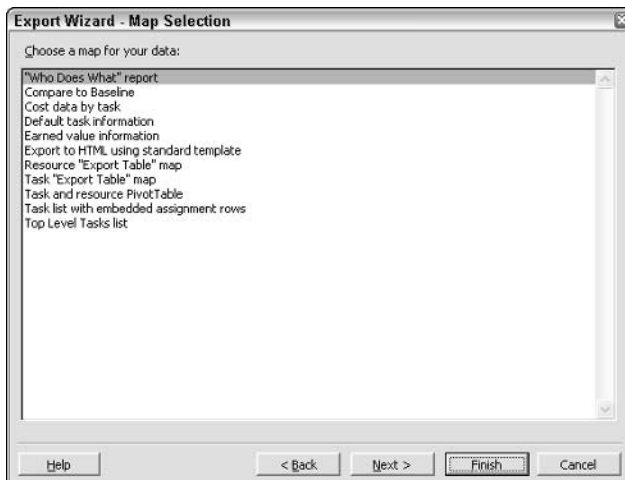

Figure 26-7: Use this dialog box to select the map that you want to use to export your data.
7. If you choose to use an existing map, you see the Map Selection dialog box, as shown in Figure 26-7. After you select a map and click Next, the Export Wizard displays the Map Options dialog box.